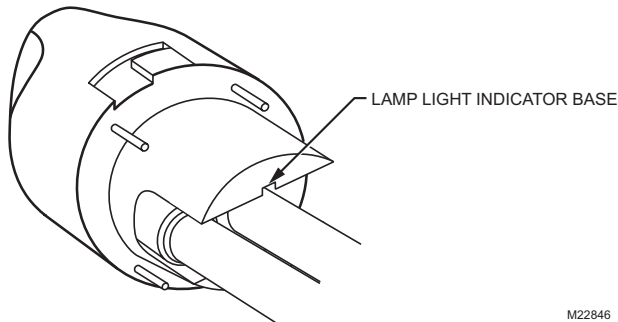

Fig. 7. Wipe lamp light indicator base.
5. Also wipe away any dust that may have collected between the lamp light indicator on the base and the black bulb base. See Fig. 7.